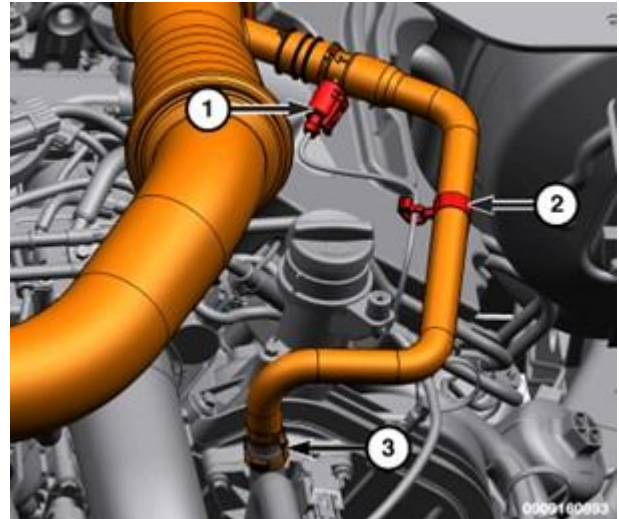

Figure 76 – CCV Harness Retainer and Connector
- 129. Attach the Closed Crankcase Heater Ventilation (CCV) heater wire harness retainer (2) (Figure 76).
- 130. Connect the CCV hose heater wire harness connector (1) (Figure 76).